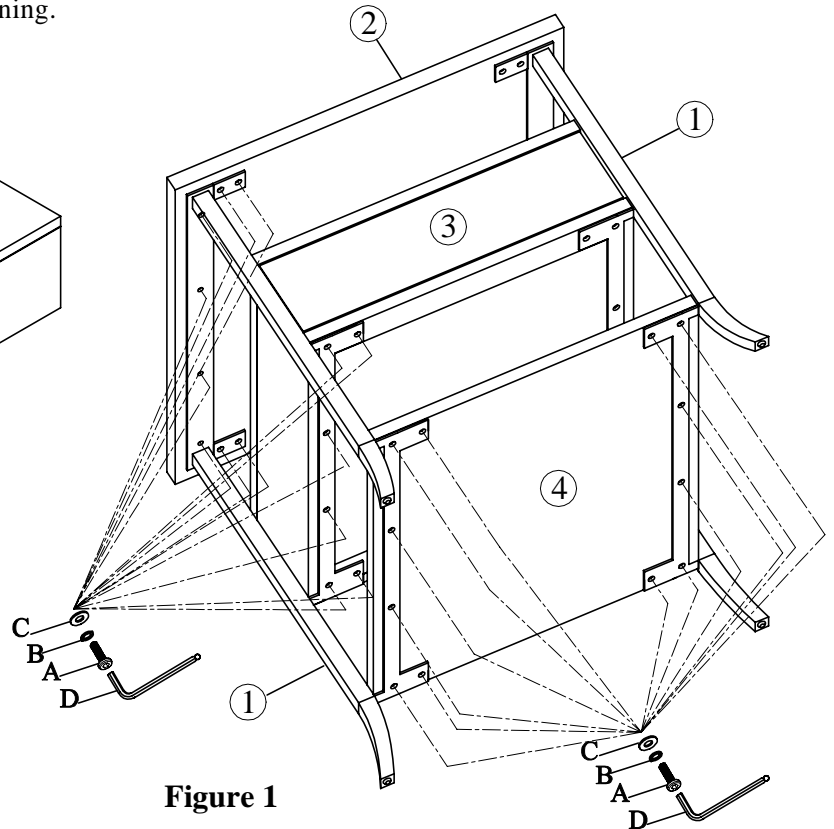

Figure 1
- STEP 1. Attach the top panel (2) to the metal frame (1) using bolt (A), lock washer (B), flat washer (C) and tighten with allen key (D). Important: Do not over-tighten. See Figure 1.
- STEP 3. Attach the base (3) to the metal frame (1) using bolt (A), lock washer (B), flat washer (C) and tighten with allen key (D). Important: Do not over-tighten. See Figure 1.
- STEP 4. Attach the bottom panel (4) to the metal frame (1) using bolt (A), lock washer (B), flat washer (C) and tighten with allen key (D). See Figure 1.